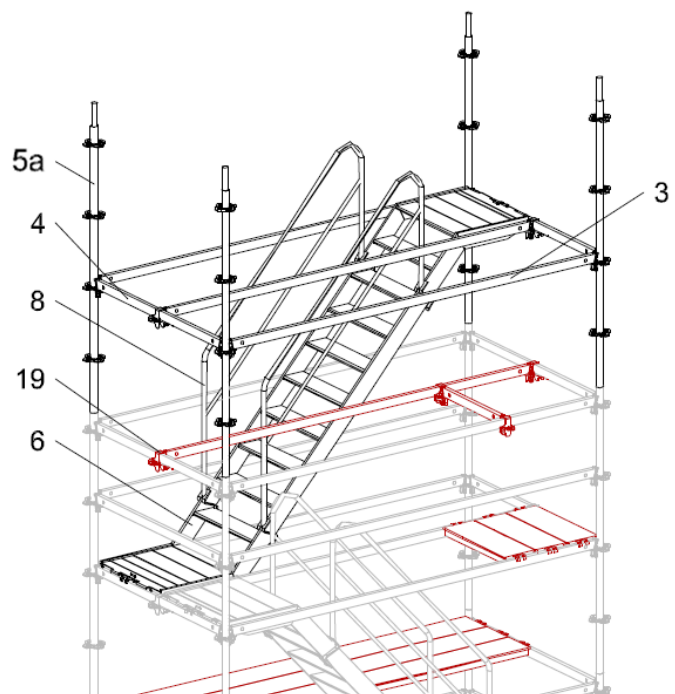

Fig.A7-2
Reposition Steel Decks UDG 300 (9) to position shown (Fig. A7-2)